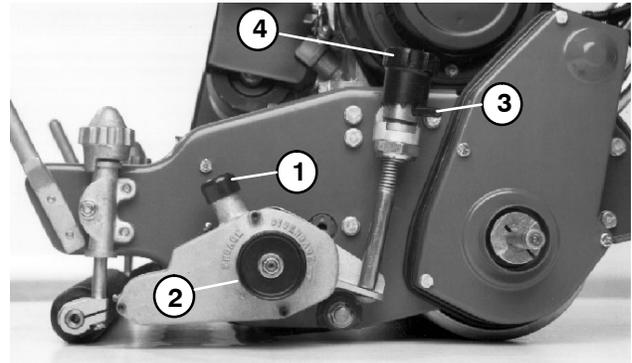

Figure 2
3. Hold clutch snubber down and disengage the clutch by turning the clutch knob clockwise. Use quick-up levers on both sides of the mower to lower the grooming reel into the grooming position (Fig. 2).
4. On one end of the grooming reel, measure the distance from the lowest tip of the groomer blade to the working surface (Fig. 3). Lift and turn micro adjustment knob to raise or lower the tip (Fig. 2). Each notch on the micro adjustment knob is approximately equal to 0.007 inch (0.178 mm).